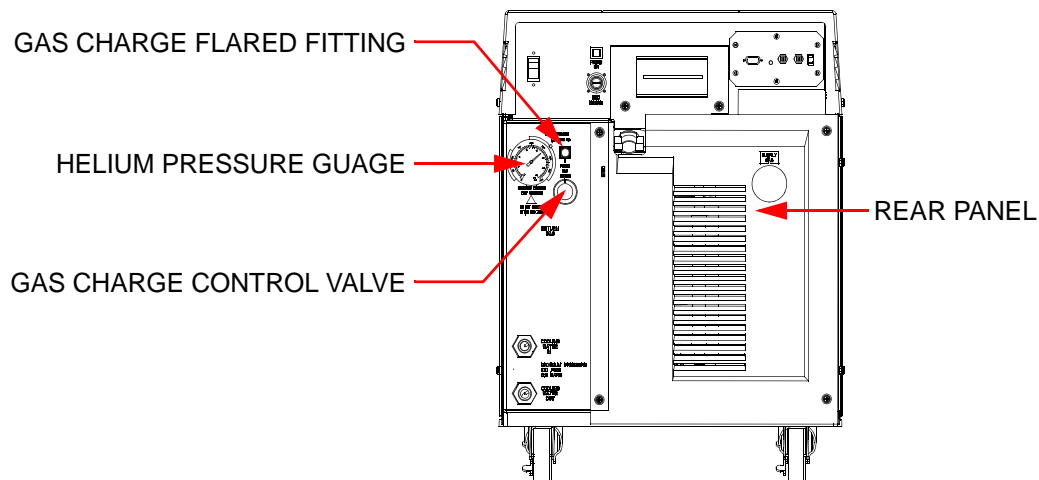

Figure 6-3: Helium Pressure Control Components
1. Remove the flare cap from the gas charge flared fitting as shown in Figure 6-3.